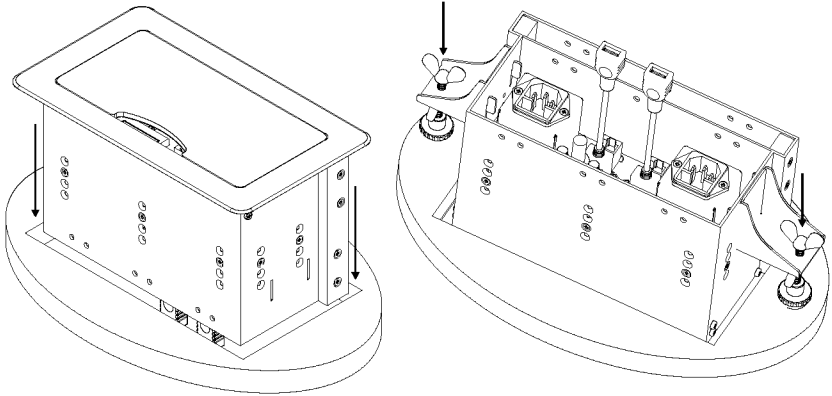

Figure 6: Installing TBUS-6
2. Carefully insert the unit into the prepared opening (see *Figure 6*).
5. Screw both mounting butterfly screws upward until they reach the table surface (from underneath). Tighten firmly (see *Figure 6*).